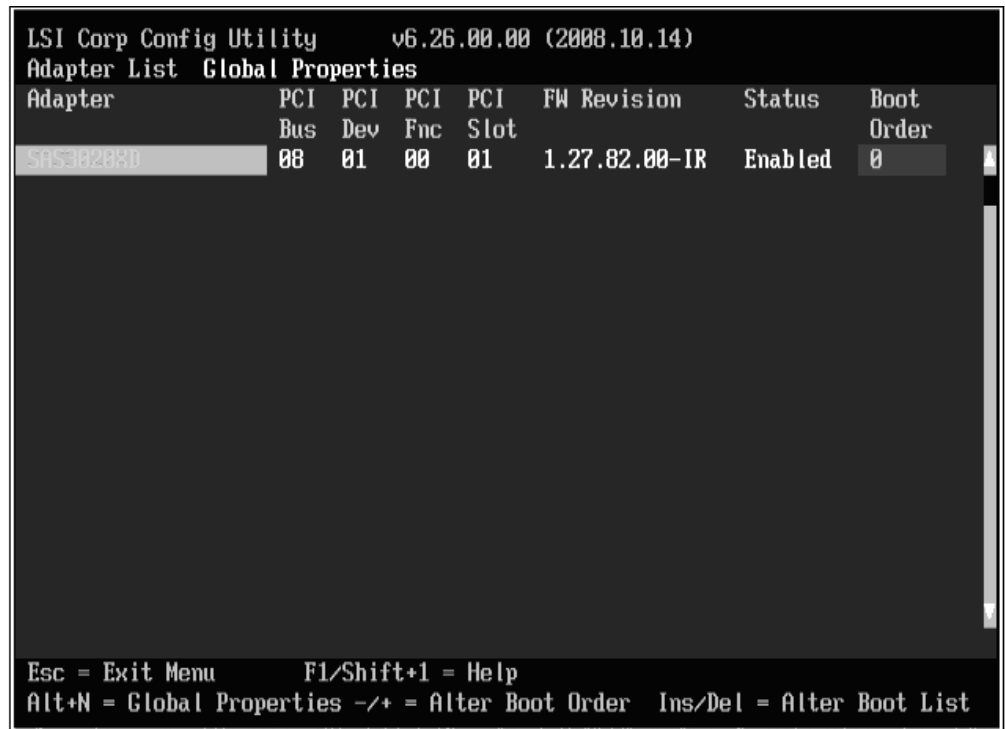

Figure 10. Adapter List screen showing SAS Expansion Card
3. When the <<<Press Ctrl-C to start LSI Logic Configuration Utility>>> prompt displays during system boot, press Ctrl+C to enter the LSI Logic Configuration Utility. The Adapter List screen displays, similar to Figure 10 on page 43.